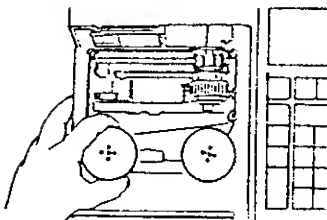

Fig. 17
4. Remove the Ink Ribbon by lifting up the ribbon spools (Fig. 17).